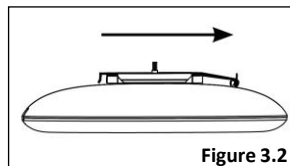

Figure 3.2
- Slide Quick Mount Plate right until the plate disengages from the Housing Plate. [Fig 3.2]